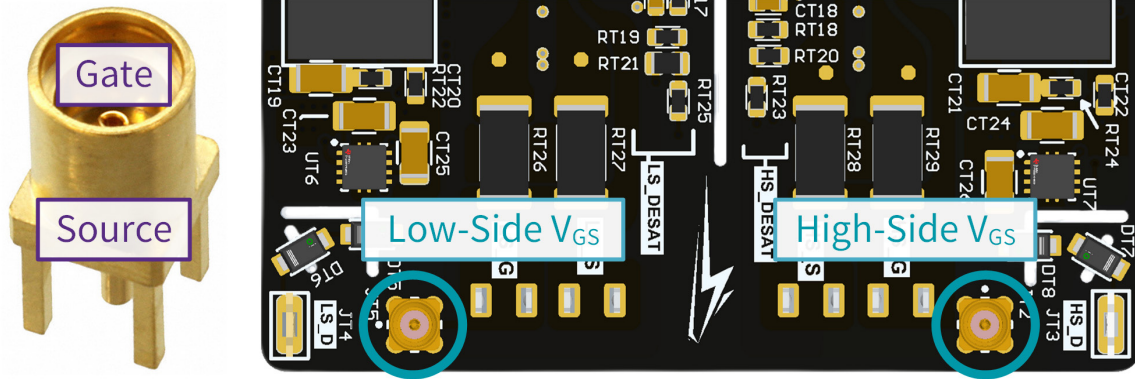

Figure 16: JT2 and JT3 measurement connector orientations and pins on CGD1700HB2P-BM2/3 gate drivers
A high-fidelity gate-to-source voltage measurement (V_{GS}) is critical for many applications such as device characterization, system commissioning, and troubleshooting. The CGD1700HB2P-BM2/3 gate drivers include integrated micro-miniature coaxial (MMCX) connectors for measuring the V_{GS} outputs of the gate driver. Note that the CGD1200HB2P-BM2/3 gate drivers do not include an integrated measurement connector. The pinouts and locations for the measurement connectors on the CGD1700HB2P-BM2/3 gate drivers are shown in Figure 16. A variety of probes can interface directly with these standard MMCX connectors. Wolfspeed recommends performing these measurements with an optically isolated probe such as the Tektronix® IsoVu™ series of probes to ensure high common-mode (CM) rejection during measurements. This is especially critical for the high-side V_{GS} measurement which is referenced to a varying voltage node. In applications where the gate driver is not placed immediately adjacent to the MOSFET gate/source terminals and in applications requiring extremely high fidelity measurements (such as characterization measurements), it is recommended to include a separate V_{GS} probe location right next to the MOSFET. The output connectors of the gate driver includes some parasitic inductance which can obfuscate dynamics occurring at the MOSFET terminals. In characterization measurements, it is critical that the V_{GS} measurement is as close as possible to the MOSFET terminals.